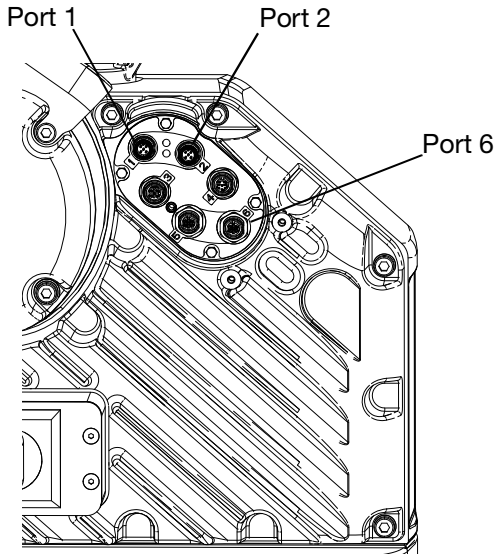

FIG. 25: Driver Port Locations
6. Using the four 10-32 mounting screws included with the kit, mount the base (S) in the holes you drilled.
7. Reattach the CGM (R) on the base (S) with the two screws (T) that were removed in step 5.
8. Reattach the access cover (U).
9. Connect the CAN cable included in the kit to either port 1 or port 2 (whichever is available) on the driver. See **FIG. 25**.